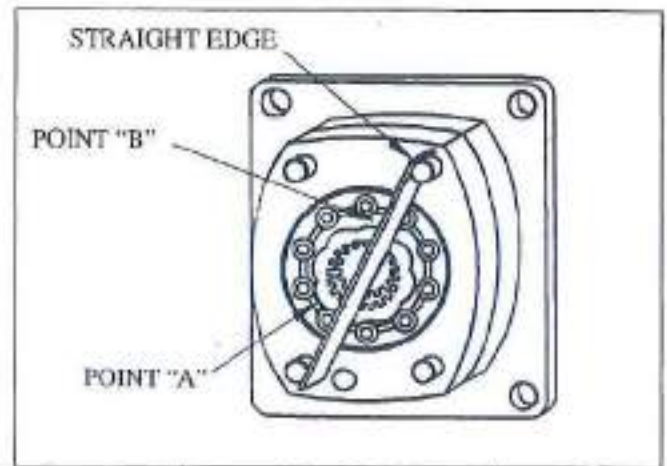

Figure 44
- Determine the center axis of the geroler assembly by jointing the "high" and "low" positions of the center star rotor. See figure 44 & 45.